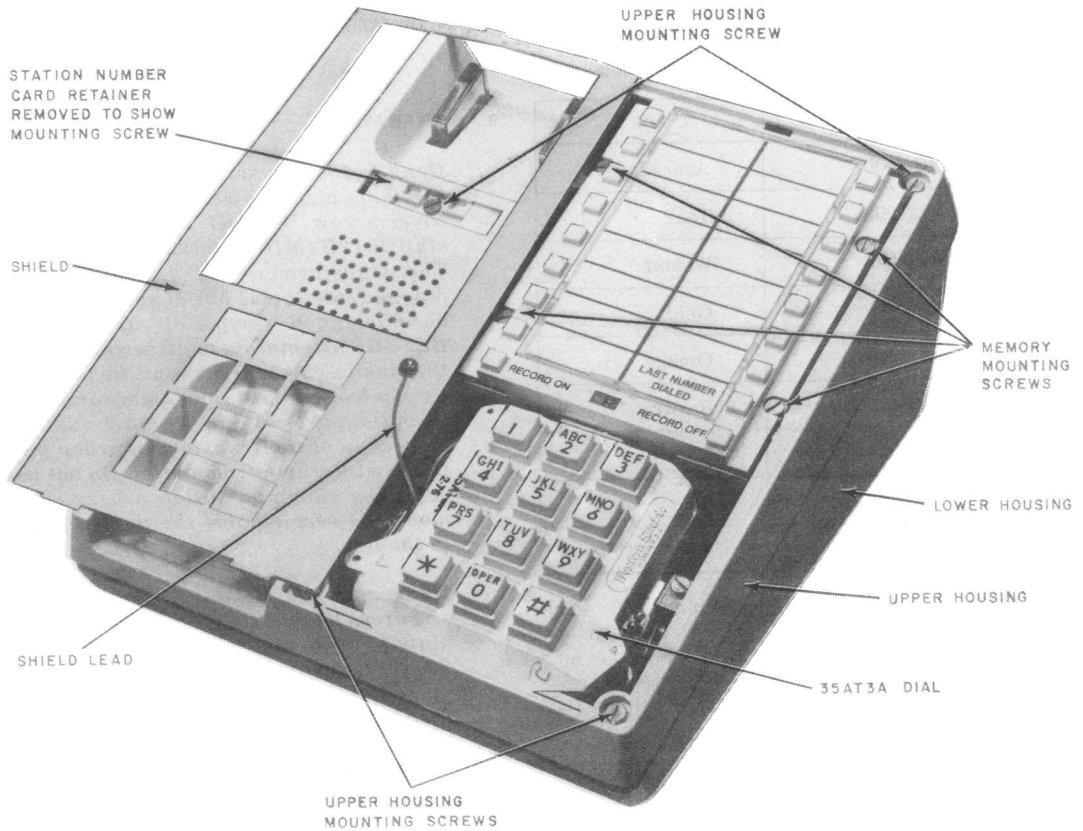

Fig. 4—2960A01M (MD) Telephone Set With Handset and Faceplate Removed and Shield Laid Aside
**Caution:** A 2012A (MD) or 2012C transformer shall not be substituted for a 2012B (MD) or 2012D, as set will not operate properly on the lower voltage.
- 841417165 Shield and Lead Assembly (Fig. 4)
- (4) Insert the three leads from the switch assembly between the circuit board and the chassis under the memory.
- (5) Replace the lower housing and place the set upright.
- (6) Remove faceplate (paragraph 3.15).
- (7) Disengage the four captive memory mounting screws (Fig. 4).
- **Shield** is underneath faceplate and is positioned over the dial and memory (Fig. 4).
- **TOUCH-TONE Telephone Dial** is fastened by two screws and located on the top side at right-front corner of the chassis (Fig. 4).
- **Memory** is fastened by four screws and located just to the rear of the dial on the top right side of the chassis (Fig. 4).
- **Upper Housing** is fastened by four screws to the top side of the chassis (Fig. 4).